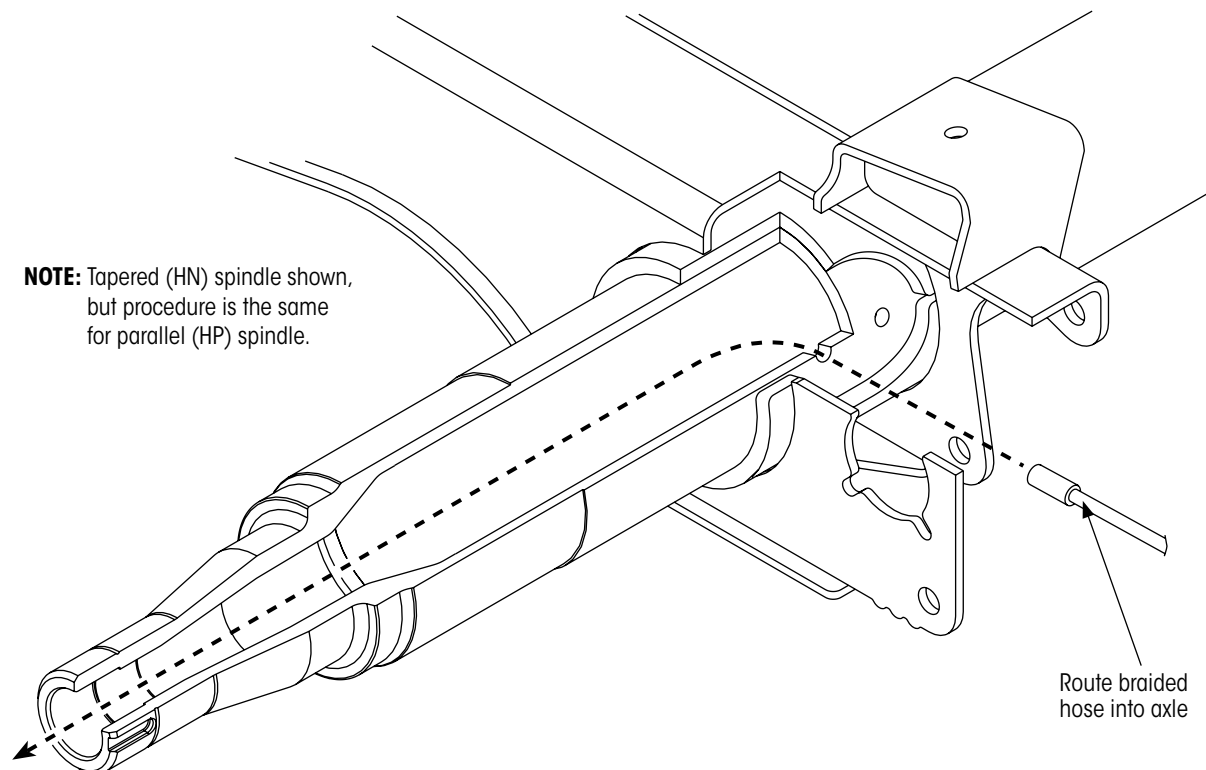

Figure 9: Routing axle hose
1. On the end of the axle tube with two ¼ inch holes in the wrap window (on **INTRAAX®** and **VANTRAAX®** suspensions), **route** the small end of the metal braided hose into the hole closest to the spindle end (Figure 9). On Hendrickson **TRLAXLE®** non-integrated trailer axle, **route** the small end of the